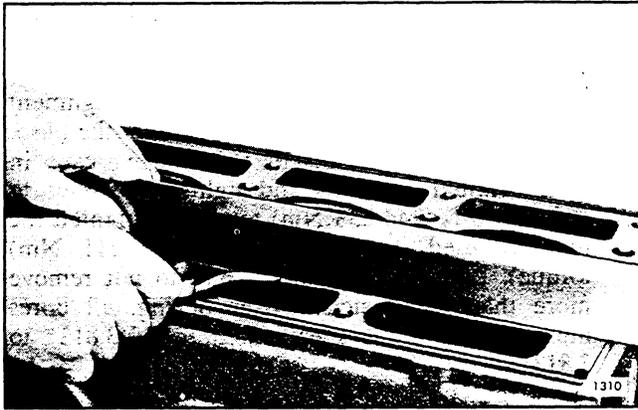

Fig. 16 - Checking Top Face of Cylinder Block
5. Check the top of the block for flatness with an accurate straight edge and a feeler gage (Fig. 16).